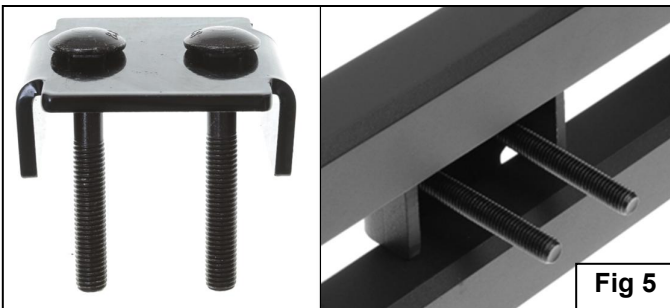
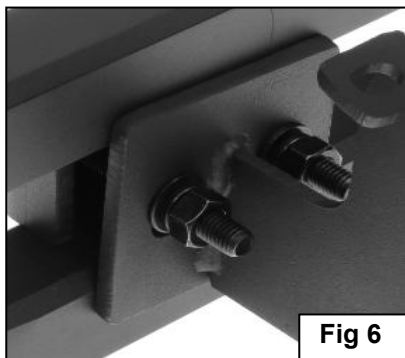

Fig 5
Fig 6
4. Select the Passenger Side Bar. Slip (2) M10X1.5-75 Carriage Bolts into each 2-Hole Support Brackets, and insert the 2-Hole support bracket into the Driver Side Bar. (Figure 5). Carefully position the Bar onto the (4) Mounting Brackets. **IMPORTANT:** Do not slide the Bar on the Brackets or damage to the finish may result. Attach the Passenger Side Bar to the Mounting Brackets with (2) M10 Hex Nuts, (2) M10 lock washers and (2) M10 flat washers, (Figure 6). Do not tighten hardware. **IMPORTANT:** Depending on year/model, it may be necessary to remove the plastic deflector from in front of the rear tire opening, (Figure 3)